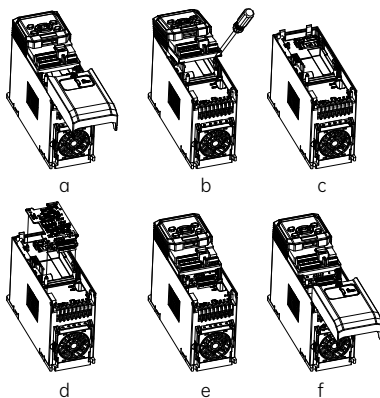

Fig. 2-3 Position 1 - PG card installation steps
(1) When the drive is powered off, press the granulated part on the middle-upper of the lower cover, and slide it down firmly to take down the cover, as shown in Fig. 2-3 a.
(2) Use a straight screwdriver to pry open the two snap-fit joints between the control box and the drive, and then remove the control box upwards, as shown in Fig. 2-3 b and c.
(3) Install the PG*2S card: Hold the PG*2S card with its terminal block downwards, then align the three round holes on the PG*2S card with the location column, and
press down to buckle the PG*2S card firmly into the four snap-fit joints, as shown in Fig. 2-3 d.
(4) After the PG card is installed, align the control box with the snap-fit joints, and press down the control box to make its lower part firmly buckled, then slide the lower cover to lock it on the drive, as shown in Fig. 2-3 e and f.